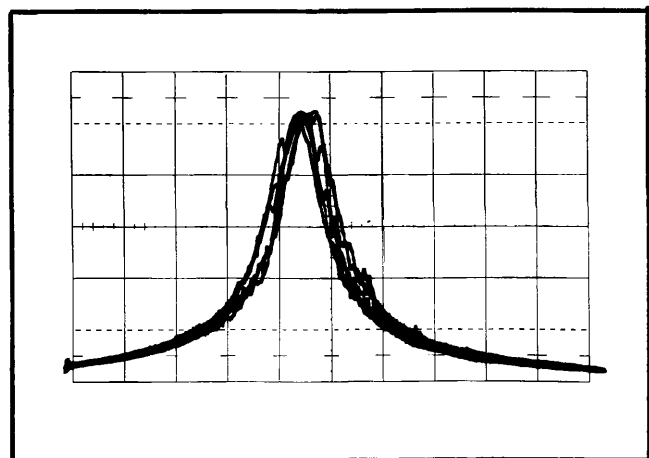

Fig. 5-6. Typical display for Incidental Frequency-Modulation Check (Step 17).
f. Adjust the POS control for a display similar to Fig. 5-6.